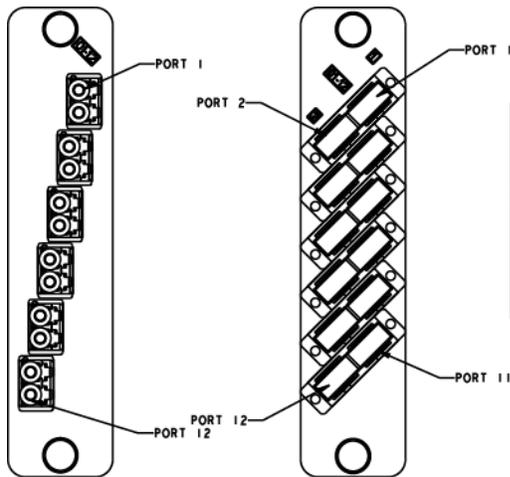
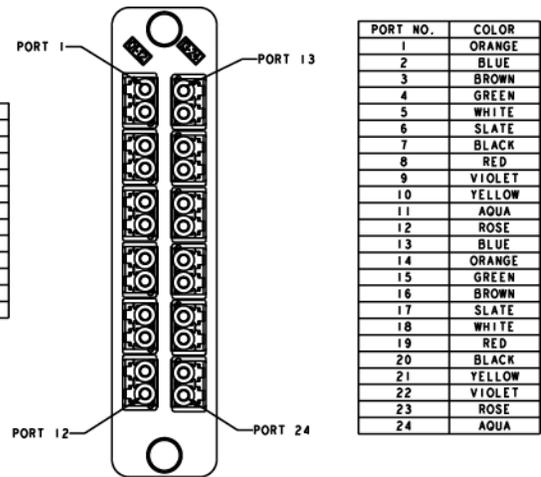

Figure 12. 12LC and 12SC Cassette
Figure 13. 24LC Cassette
2. Install the pigtail based on the color sequence (Figure 12 for 12LC and 12SC cassette, Figure 13 for 24LC cassette).